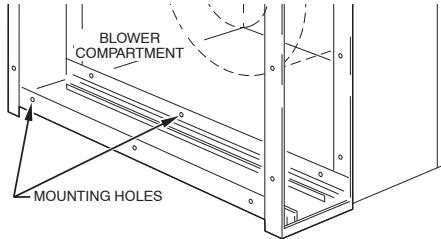

Fig. 7 - Mounting Holes
5. Mounting holes are provided for simple connection to duct work and unit cabinet. See Fig. 7. The .140 in. holes are sized for # 8 sheet metal screws, or 1/8 in. rivets. If the adjoining duct work is flanged, install the screws so that the screw heads are inside the cabinet. This will prevent damage to the EZ-Flex filter during removal and installation.